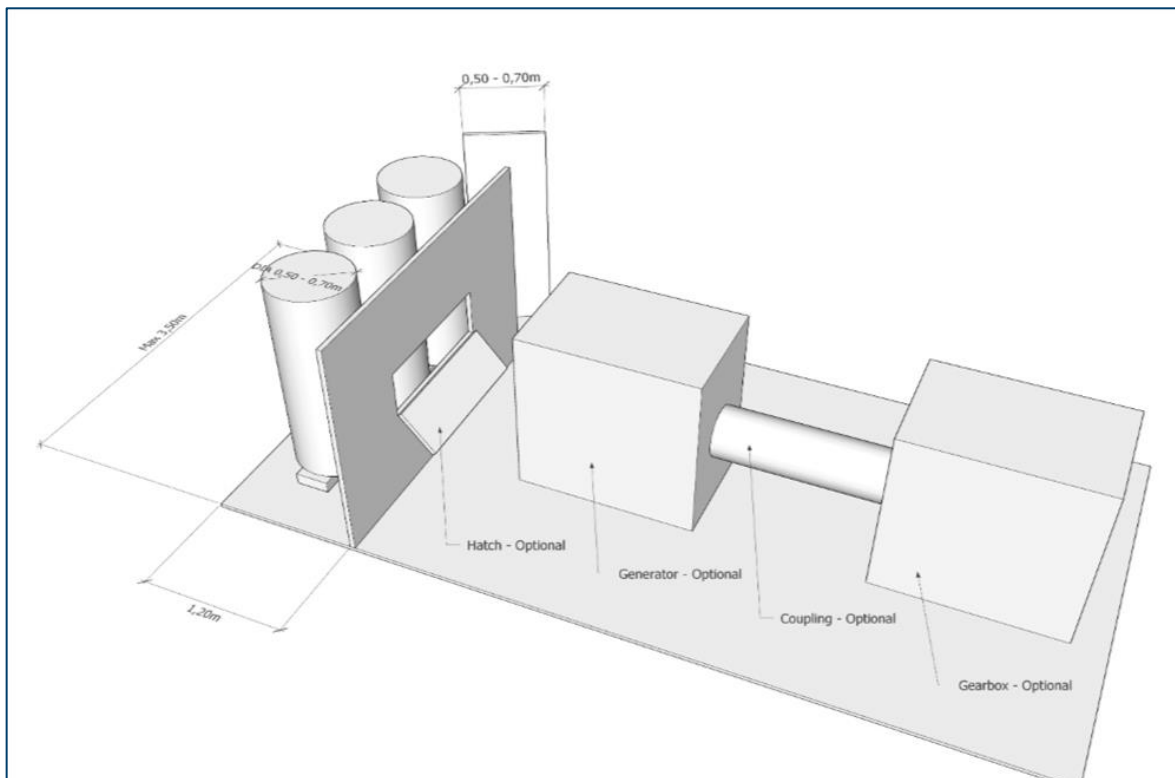

Figure 6-42 - Recommended dimensions for the Nacelle Mock-up
- 5) Mock-up to simulate the nacelle. Figure 6-42 provides dimensions to the GWO recommended Nacelle mock up. The training provider can deviate from the recommended nacelle measures to facilitate a specific turbine design. The nacelle mock-up must be filled with sufficient simulated assets, to create a realistic nacelle. The maximum available contiguous floor space must be less than 3m², excluding walkways of less than 60 cm width. The sides of the nacelle should be designed in such a way as to prevent direct visual contact from within the nacelle to the teams outside of the nacelle